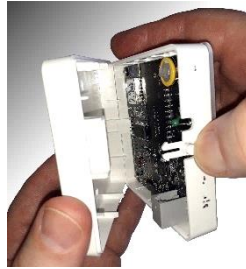

Figure 7.
Step 1 Press release button on side of Controller case and pull the back case away (Figure 7)